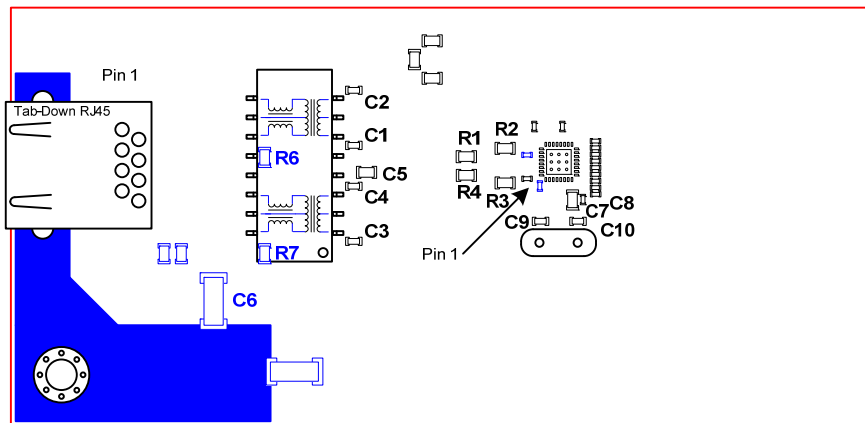

Figure No. 1
5. See Figure No. 1 for the placement of the termination resistors for the differential pairs for the LAN88710 Phy. These resistors are R1, R2, R3 & R4 in Figure No. 1.
6. Place the four optional, low-valued, common mode capacitors for each differential signal as close as possible to the magnetics. They should be placed as to create the smallest possible stub. These caps are C1, C2, C3 & C4 in Figure No. 1.
3. See Figure No. 1 below for the placement of the center tap termination components for the LAN88710 Phy. These resistors/capacitors are C5, R6, R7 & C6 in Figure No. 1.